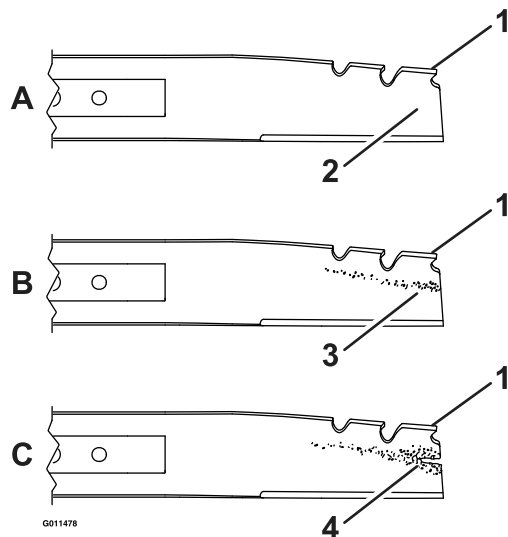

Figure 21
5. Inspect the blade for sharpness and wear, especially where the flat and the curved parts meet (see Figure 21). Because sand and abrasive material can wear away the metal that connects the flat and curved parts of the blade, check the blade before using the lawn mower. If you notice a slot or wear (Figure 21B and Figure 21C), replace the blade.